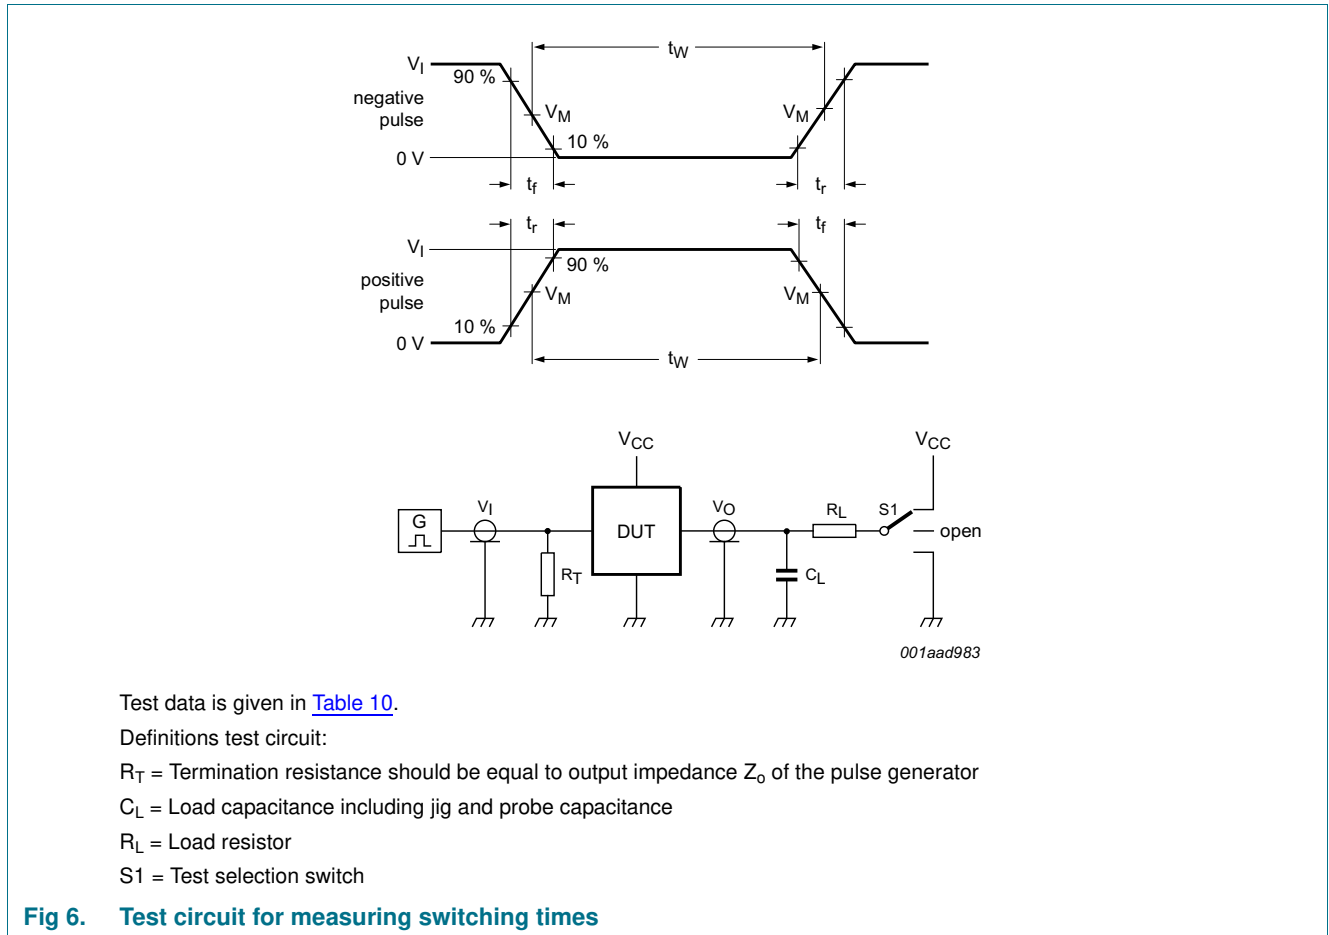

Fig 6. Test circuit for measuring switching times
GND = 0 V. For test circuit, see Figure 6.
*GND = 0 V. For test circuit, see Figure 6.*